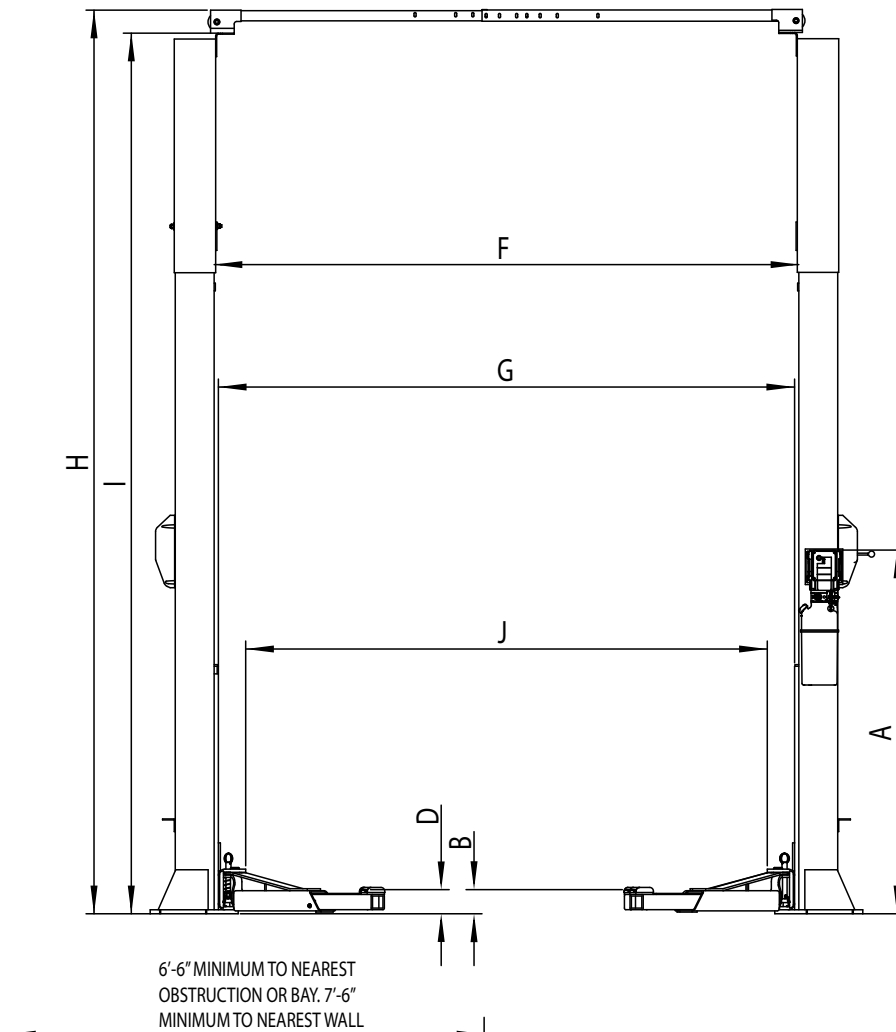
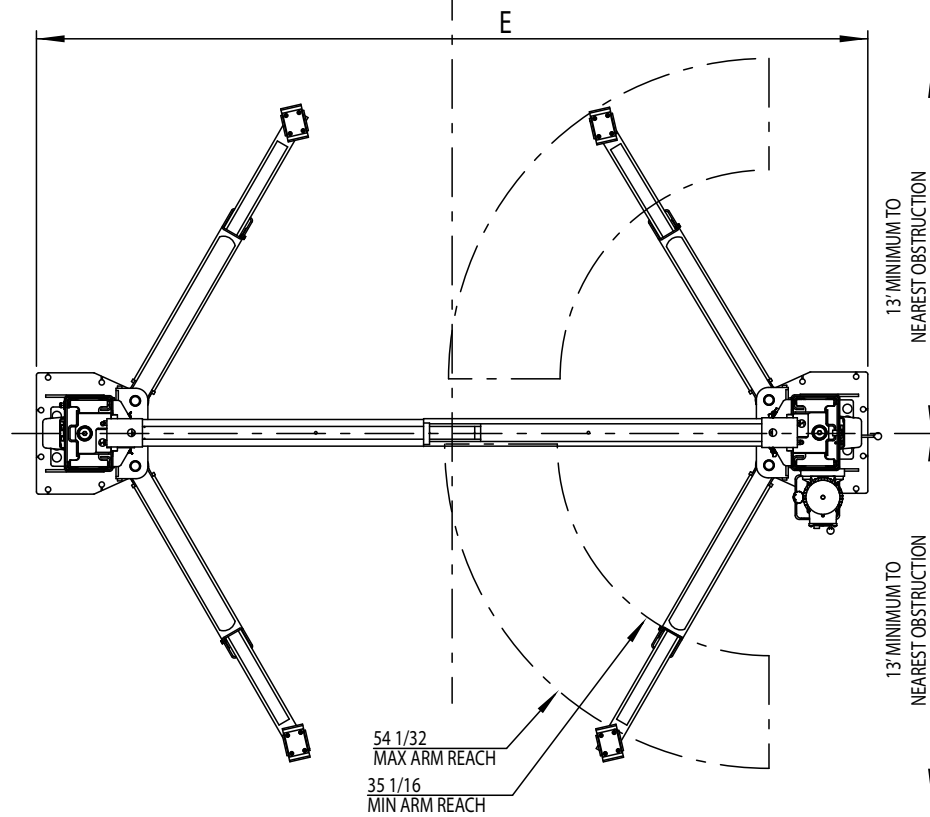

Fig. 1a
Fig. 1b
1. Lift Location: Use architects plan when available to locate lift. Fig. 1a, Fig. 1b, Fig. 1c & Fig. 1d shows dimensions of a typical bay layout.
4. Lift Setting: Position columns in bay using dimensions shown in Fig. 1a, Fig. 1b, Fig. 1c & Fig. 1d. Place column with power unit mounting bracket on vehicle passenger side of lift. Both column base plate backs must be square on center line of lift. Notches are cut into each base plate to indicate center line of lift. Use appropriate equipment to raise carriage to first latch position. Be sure locking latch is securely engaged.